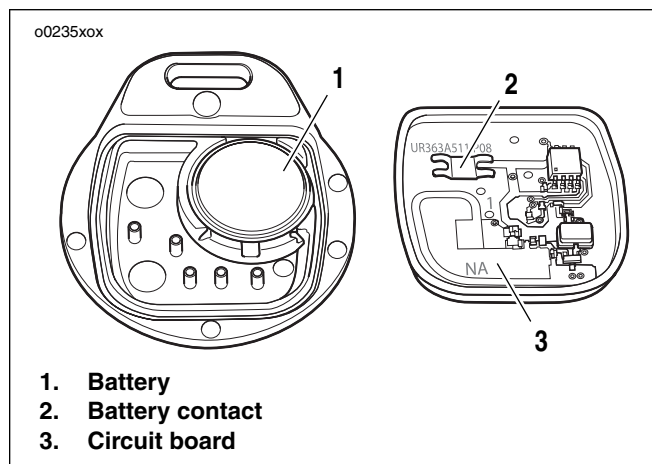

Figure 3-52. Open Key Fob Case
2. See Figure 3-52. Replace battery (1).